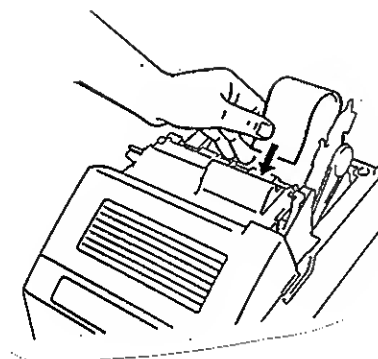

Fig. 2
- 3) Insert the paper end into the paper inlet until it stops, then feed the paper by pressing the JOURNAL FEED Switch until the leading edge of the paper comes out about 25 cm. (Fig. 2)